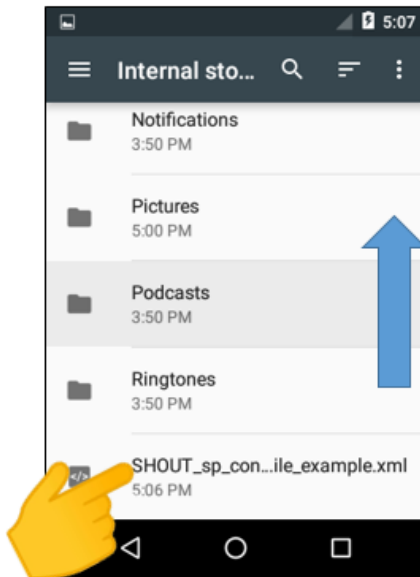

Figure 97: Tap Recent to see Open menu
16. Scroll to and tap/select the XML file to be used for configuration (see **Figure 97**).